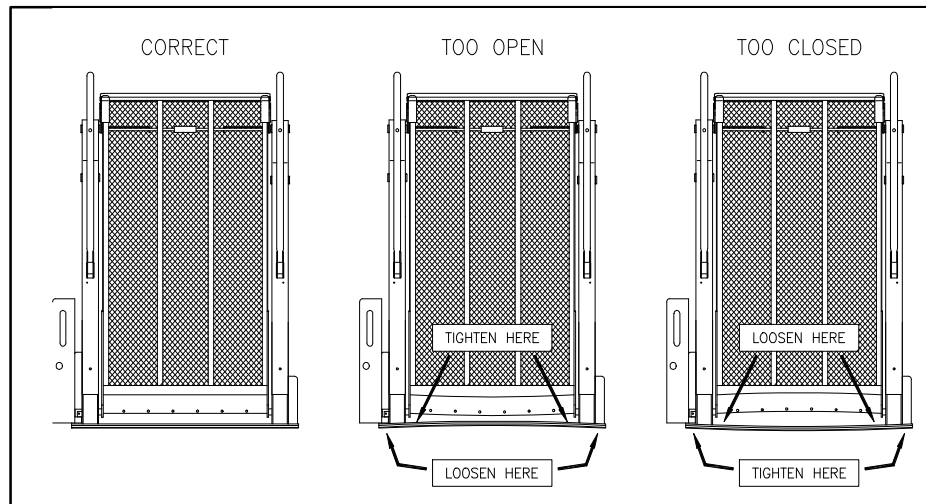

FIGURE 2-1: PLATFORM MOUNTING
- Refer to **Figure 2-1**. Improper fastening sequence or torquing of bolts may result in a warped or buckled baseplate and, therefore, cause lift to operate unevenly.